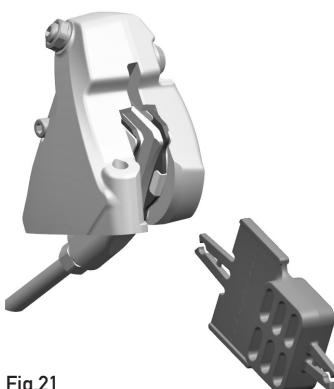

Fig.21
- If you need to remove the wheels from the bike, ensure that you have inserted the transport tool (Fig. 21/22) which prevents the brake pads from coming together if the brake lever is accidentally engaged, making it impossible to insert the disc.